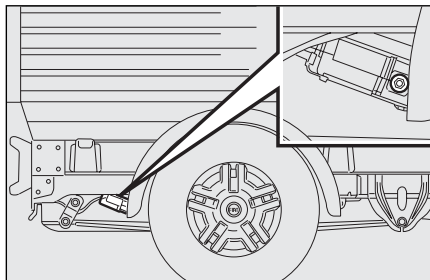

fig. 3
- ☐ for chassis-cabs, from the rear right side of the vehicle **fig. 3** use the wrench to operate the wheel restraints screw,